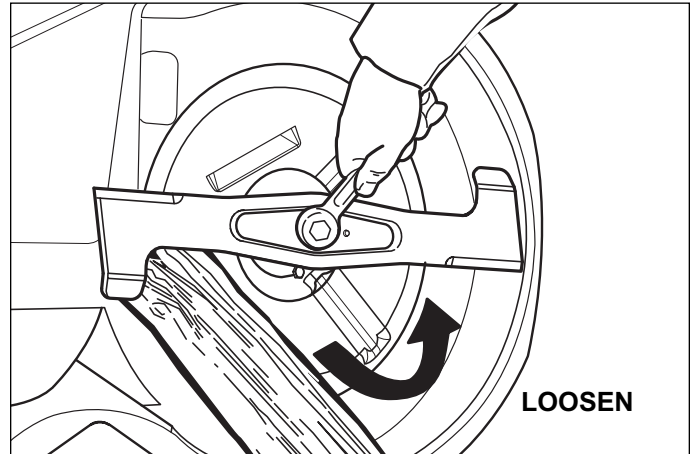

Figure 22. Blade Removal
2. See Figure 22. To remove blade for sharpening, use a block of wood to prevent blade rotation while loosening the capscrew.
3. See Figure 22. Use a block of wood to prevent blade rotation while loosening the capscrew.